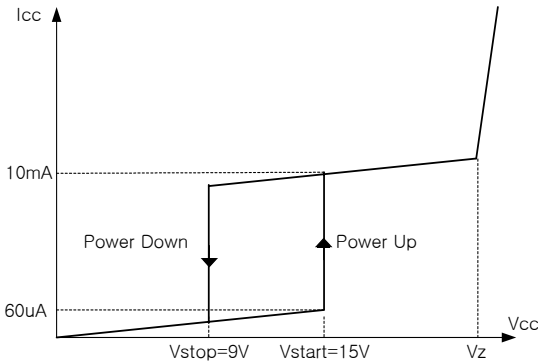

Figure 1. Relation between supply current and voltage
1. Startup : To guarantee stable operation of the control IC, Vcc has under voltage lockout (UVLO) with 6V hysteresis. Figure 1 shows the relation between the supply current (Icc) and the supply voltage (Vcc). Before Vcc reaches 15V, the start-up current is 60μA, which is usually provided by the DC link through start-up resistor. When Vcc reaches 15V, the control IC begins operation and the operating current increases to 10mA as shown. Once the control IC starts operation, it continues its normal operation unless Vcc goes below the stop voltage of 9V.